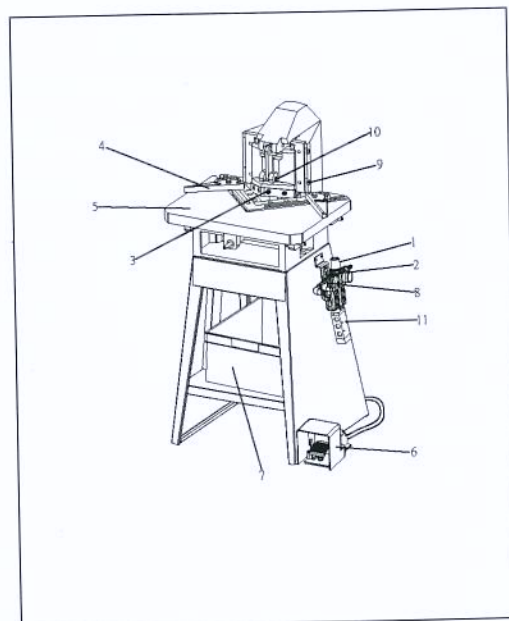

Figure 2
**Major Components:** Refer to Figure 2